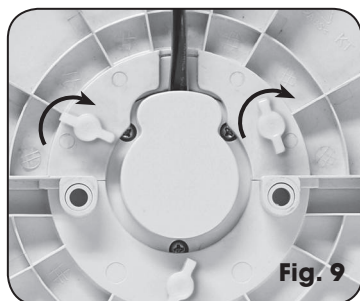

Fig. 9
4. Position base stand piece (b) with the curved side facing towards the bottom part of the tower fan body, onto base stand piece (a) by interlocking the six locating posts located along the straight edge of each of the base stand pieces and by aligning the two remaining screw holes located underneath the tower fan body with the corresponding screw holes on base stand piece (b). Firmly push down base stand piece (b) until it is secured into place with base stand piece (a) (See Fig. 8). Secure base stand piece (b) with the 2 remaining fastening screws. (See Fig. 9).